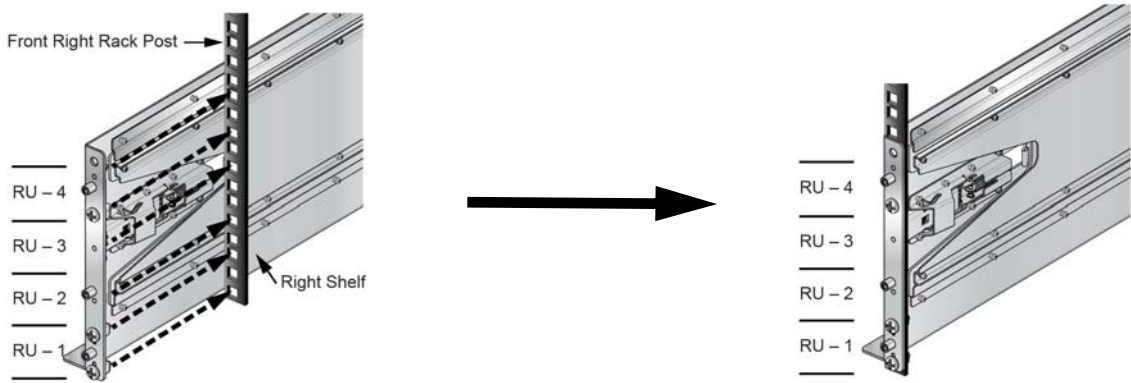

Figure 8: Attaching the Right Shelf
- Step 2** Attach the front side of the shelf to its corresponding front rack post by inserting the shelf-side rack plugs and guide pins into post slots (Figure 8).